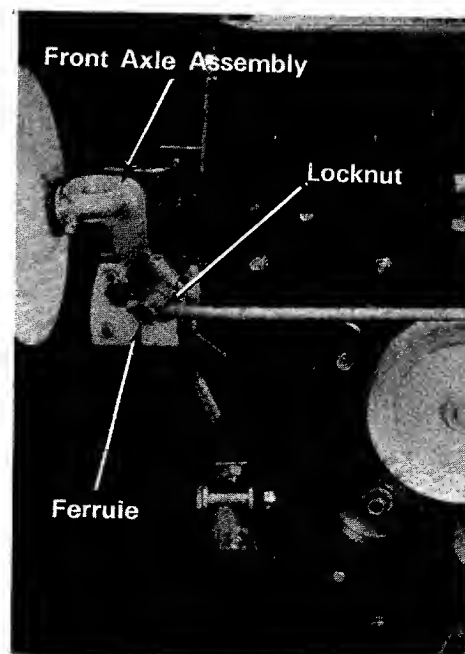

Figure 17.
1. Remove the cotter pin holding the ferrule to the front axle assembly. (See figure 17.)